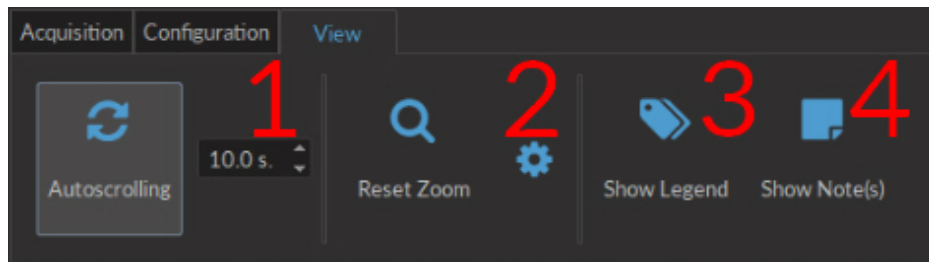
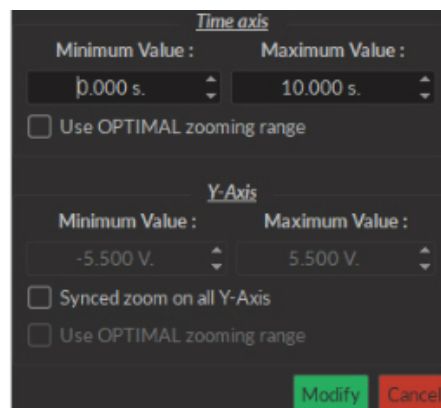

Figure 3.17: View Tab
Figure 3.18: Zooming Menu Window
The **View Tab** (Fig. 3.17) is used to modify the presentation of graphs in the **Acquisition view**.
1. The **Autoscrolling** button (Fig. 3.17), when clicked, makes the graphs scroll as new data appears. The duration (in seconds) kept on display is defined in the box beside the button.
2. The **Reset Zoom** button (Fig. 3.17) sets the graph zoom to a pre-defined value. This value is defined using the **Zooming menu** (Fig. 3.18), accessed using the **Gear** button.
3. The **Show Legend** button (Fig. 3.17) will open the **Legend** window (Fig. 3.19). This window display each configured **Channel**, as well as its **Name**, its **Channel Mode**, **Trigger Mode** and **Trigger Source** if applicable. Selecting the button while a window is open will close the window.
4. The **Show Notes** button (Fig. 3.17) will open the **Note Viewer** window (Fig. 3.20). Selecting the button while a window is open will close the window.